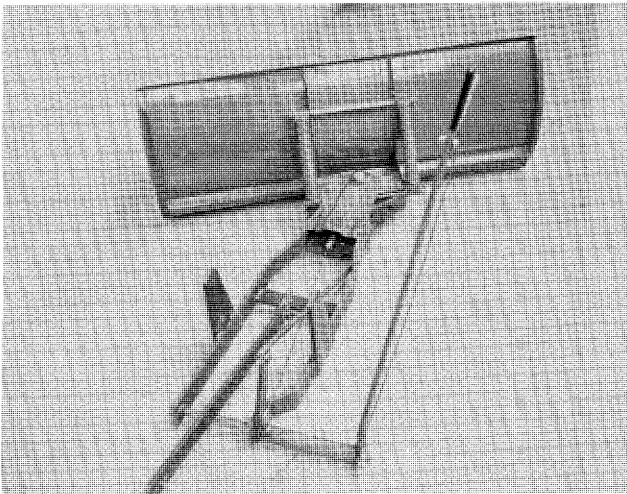

FIGURE 4
6. Connect the wire rod between the index handle and indexing pin, see figure 4. The loop end connects to the handle and the sharp bend end connects to the pin. Crimp the ends over to secure.